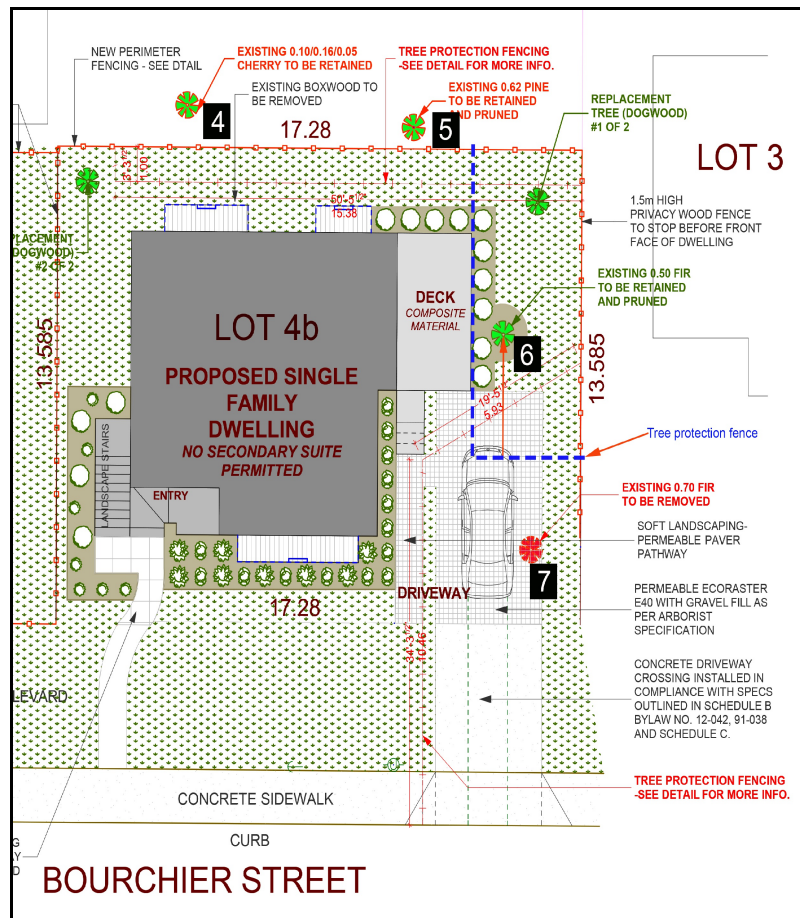

Figure 3. Fencing plan.
The plan is to remove tree # 7 on site and #1 in the boulevard. If the project gets approval the following items require specific actions. See Figure 3.
- 1 Before any other site work commences a tree protection fence shall be erected on site. Figure 3 shows the location of that fence (dashed blue line) in the north east corner around tree #6. That fence shall be placed 1.0 metre west of the base of the tree and 3.5 metres to the south, to start with.